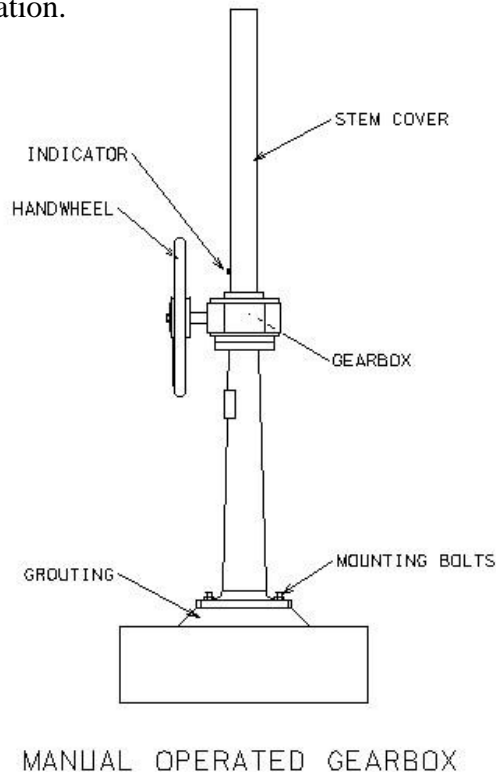

Figure 1.1, Manual Operated Headstock Mounting
4. Grouting should be placed between the floor and the operator so that the operator is plumb and the base of the headstock is approximately 30-50mm above the operating floor. (Figure 1.1)